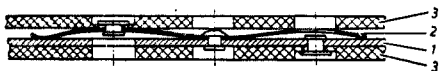

Fig. 25 — 5/2
4. When refacing the disk, rivet the facings alternately to the metal plate and the spring plate. The facings must not be riveted through; this would interfere with the required spring action between them. (Fig. 25 — 5/2).
5. After riveting the facings check disk for run-out and, if necessary, true up by means of a fork (Fig. 25 — 5/3). Under no circumstances should the facings be ground! Admissible run-out 0.5 mm.